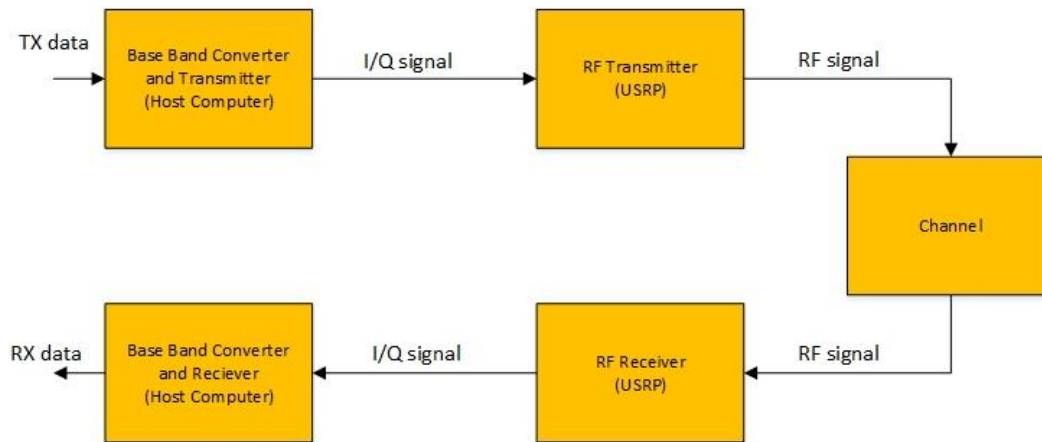

Figure 1: Basic Communication System Using NI-USRP
The NI USRP-2922 is the hardware being used in this lab and can be easily configured and controlled using computer and the LabVIEW software. Figure 1 shows how the basic communication system is configured between the computer and the USRP. Since the Base Band (BB) signals are suitable for transmitting over RF channel and equipment, so the TX data, which are either analog (like sound) or digital (like bits), are converted to BB signals by computer using the software (e.g. MATLAB or LabVIEW in this lab), and the results (BB I/Q signal samples) are passed to the transmit RF equipment (USRP) over the Ethernet gigabit cable with 16 bits of resolution and at up to 25 MS/sec sample rate.